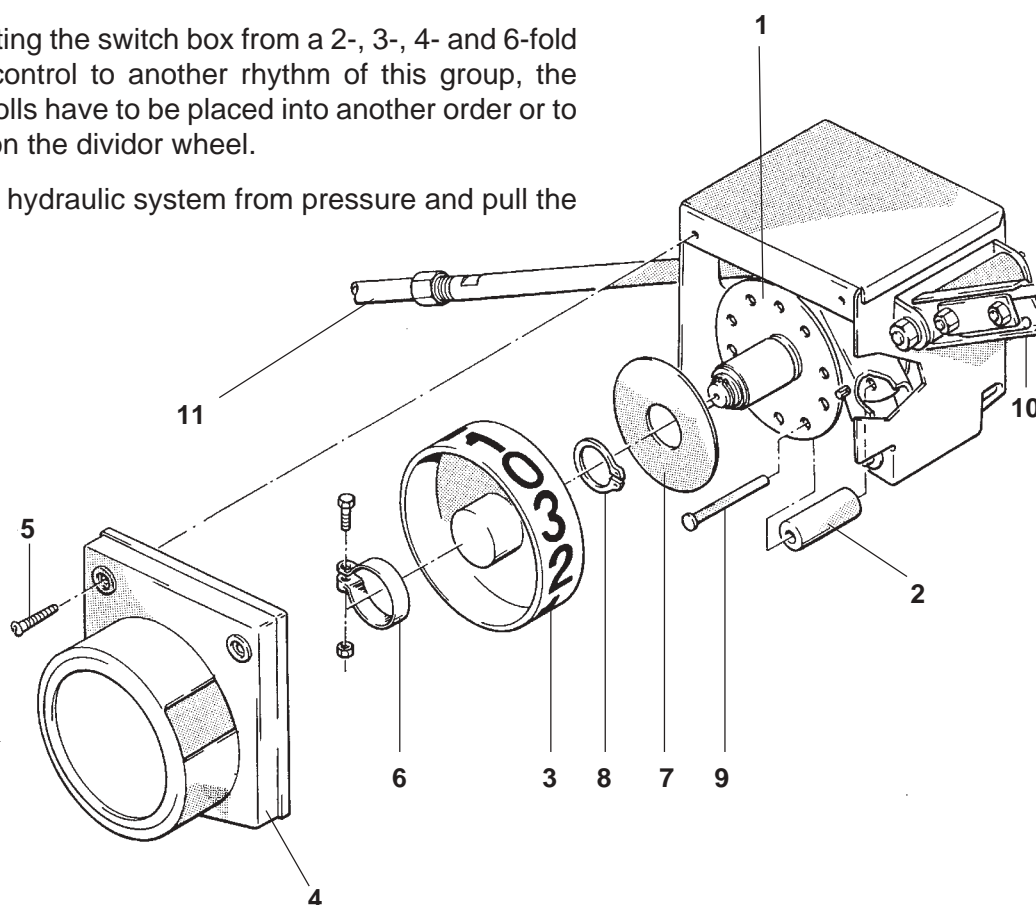

Fig. 26.39
The spacing of the tramlines (see table Fig. 26.3) corresponds to the working width of the fertiliser broadcaster or of the sprayer. The switch box (Fig. 26.39) controls the rhythm of the tramlines. If it is necessary to create tramlines of a different rhythm, the divisor wheel (Fig. 26.39/1) inside the switch box should be exchanged or converted.
For the 2-, 3-, 4- and 6-fold switching rhythm the divisor wheel (Fig. 26.39/1) must not be exchanged. For converting the switch box to another rhythm control within this group, only the switching rollers have to be placed resp. added in another order as described in para. 26.10.
- Take off protective cover (Fig. 26.39/4) after taking out the two tin screws (Fig. 26.39/5).
- Slacken clamp (Fig. 26.39/6) and pull off together with the display wheel (Fig. 26.39/3)
- Remove the securing disc (Fig. 26.39/7) only after removal of the circlip (Fig. 26.39/8).
- The free accessible shifting rollers (Fig. 26.39/2) are to be inserted into the divisor wheel as described in para. 26.11 after pulling out the pins (Fig. 26.39/9).